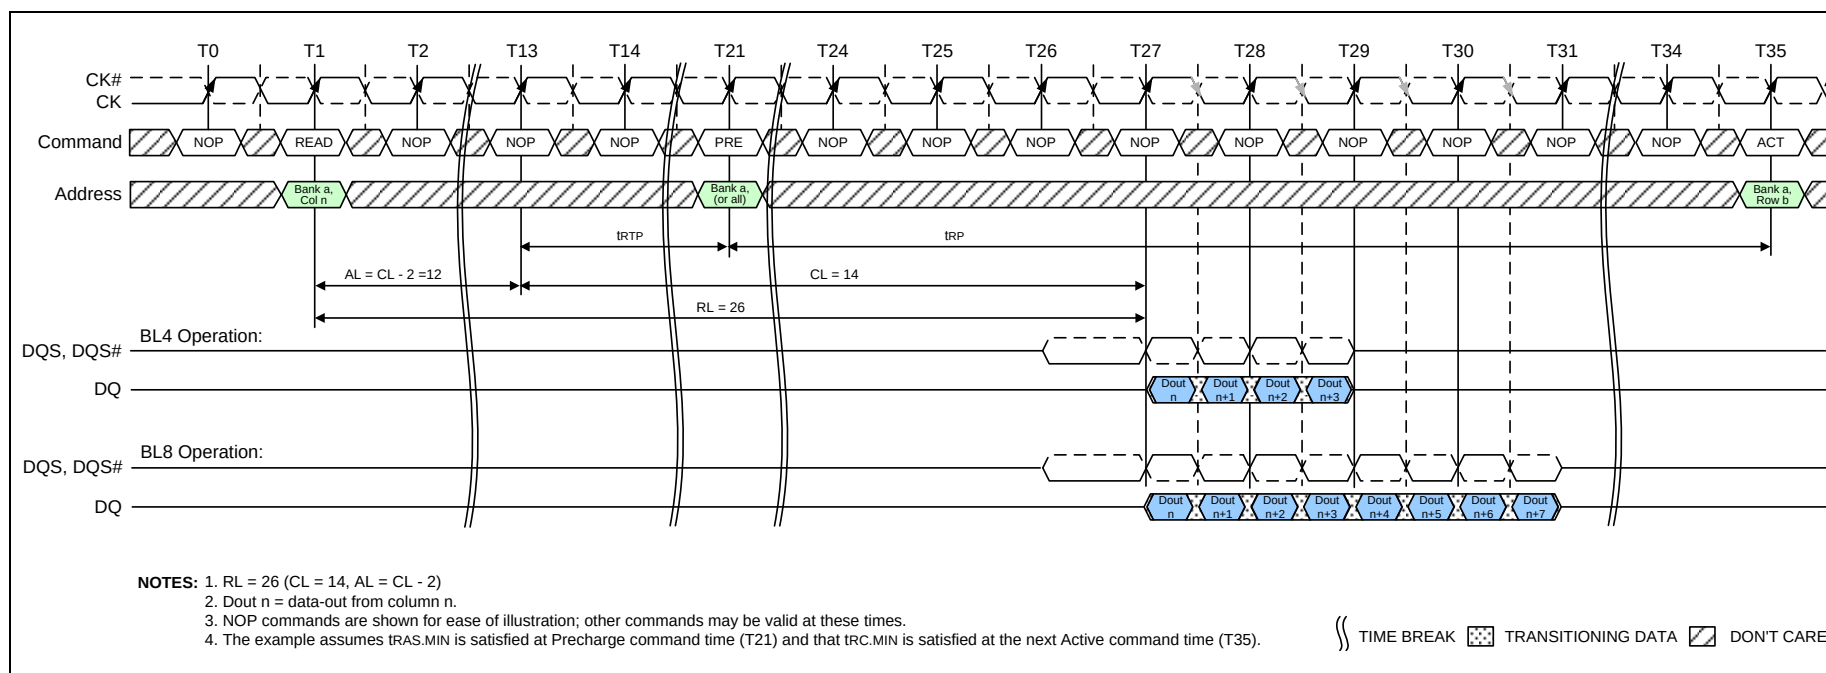

**Figure 39 – READ to PRECHARGE ( $RL = 26$ ,  $AL = CL - 2$ ,  $CL = 14$ ,  $t_{rTP} = 8$ ,  $t_{rP} = 14$ )**
- Examples of Read commands followed by Precharge are show in Figure 38 and Figure 39.